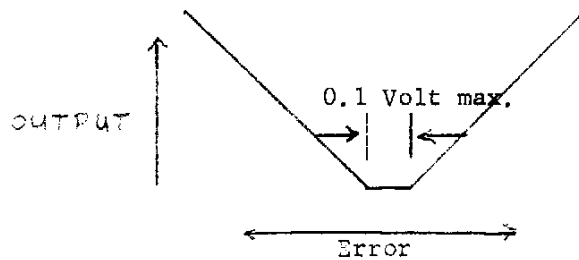

FIGURE 4.
- 3.3 Deadband should not exceed 0.10V max. (See Figure 4)